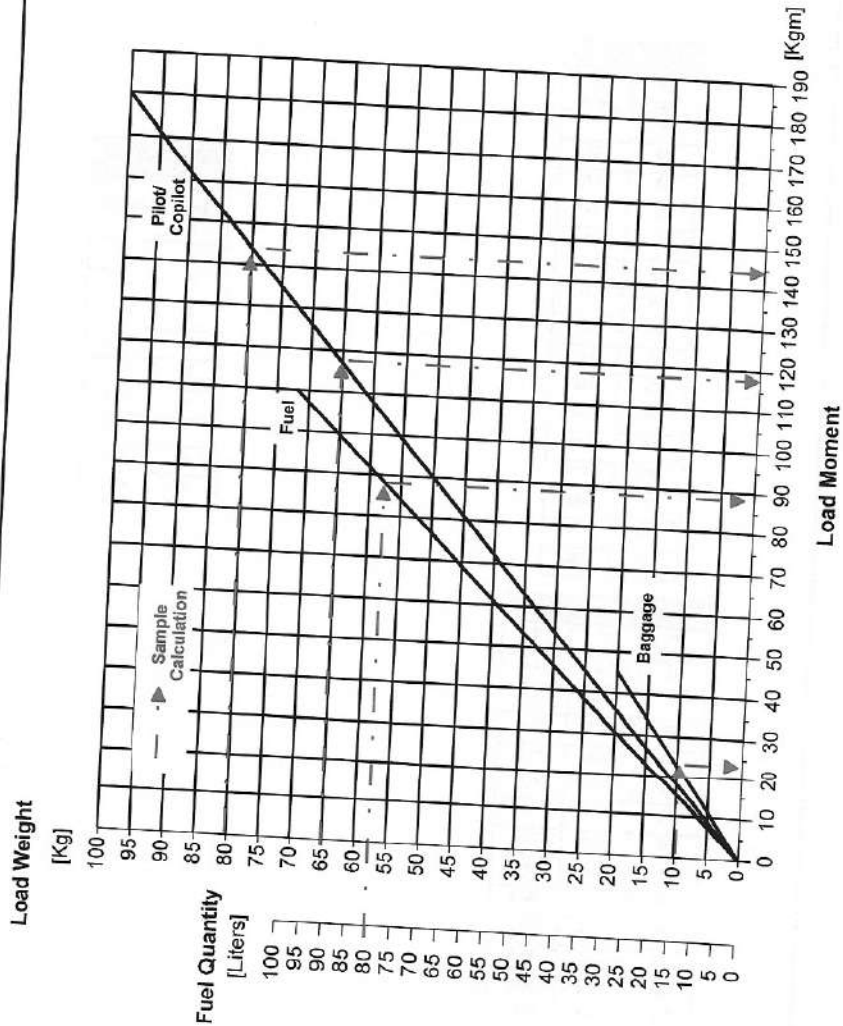

Fig.6.3 LOADING DIAGRAM
- Loading Diagram (Figure 6-3)
Alternatively, the moment can be read from the Loading Diagram (Figure 6-3).